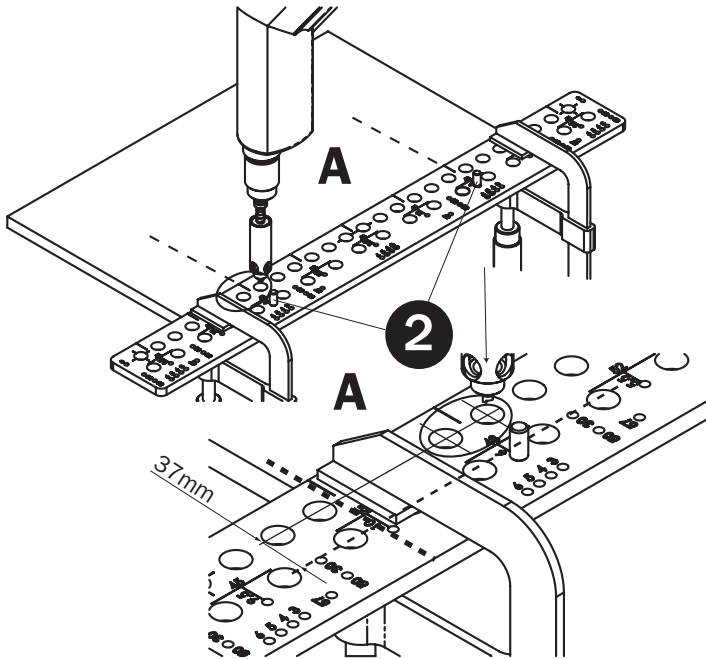

Fig. 14
Insert two pins (pos. 2) in any 2 adjacent holes in a row to mark the centre of the pivots (**Fig. 14**). Position **CMT900** on the work piece so that the central axis of the selected hinge spacing on the template is aligned with the central axis on the work piece and the pins are up against the front edge of the work piece. Use the **CMT400-1** adaptor chuck with a drill bit for $\varnothing 3\text{mm}$ blind holes for wood screws or $\varnothing 5\text{mm}$ for euro screws.
Make certain that the stops are up against the front edge of the board and the hinge axis on the drilling template is at the same point as the hinge axis on the work piece. Fix the drilling template to the work piece using clamps. Set the drilling depth of the adaptor chuck according to the wood screws used. Insert the adaptor chuck with the relative drill bit in the main row of holes and drill a hole to the right of the axis and another to the left (**detail Fig. 14**). Make certain the drill rotates in the correct direction – these are right-hand bits.